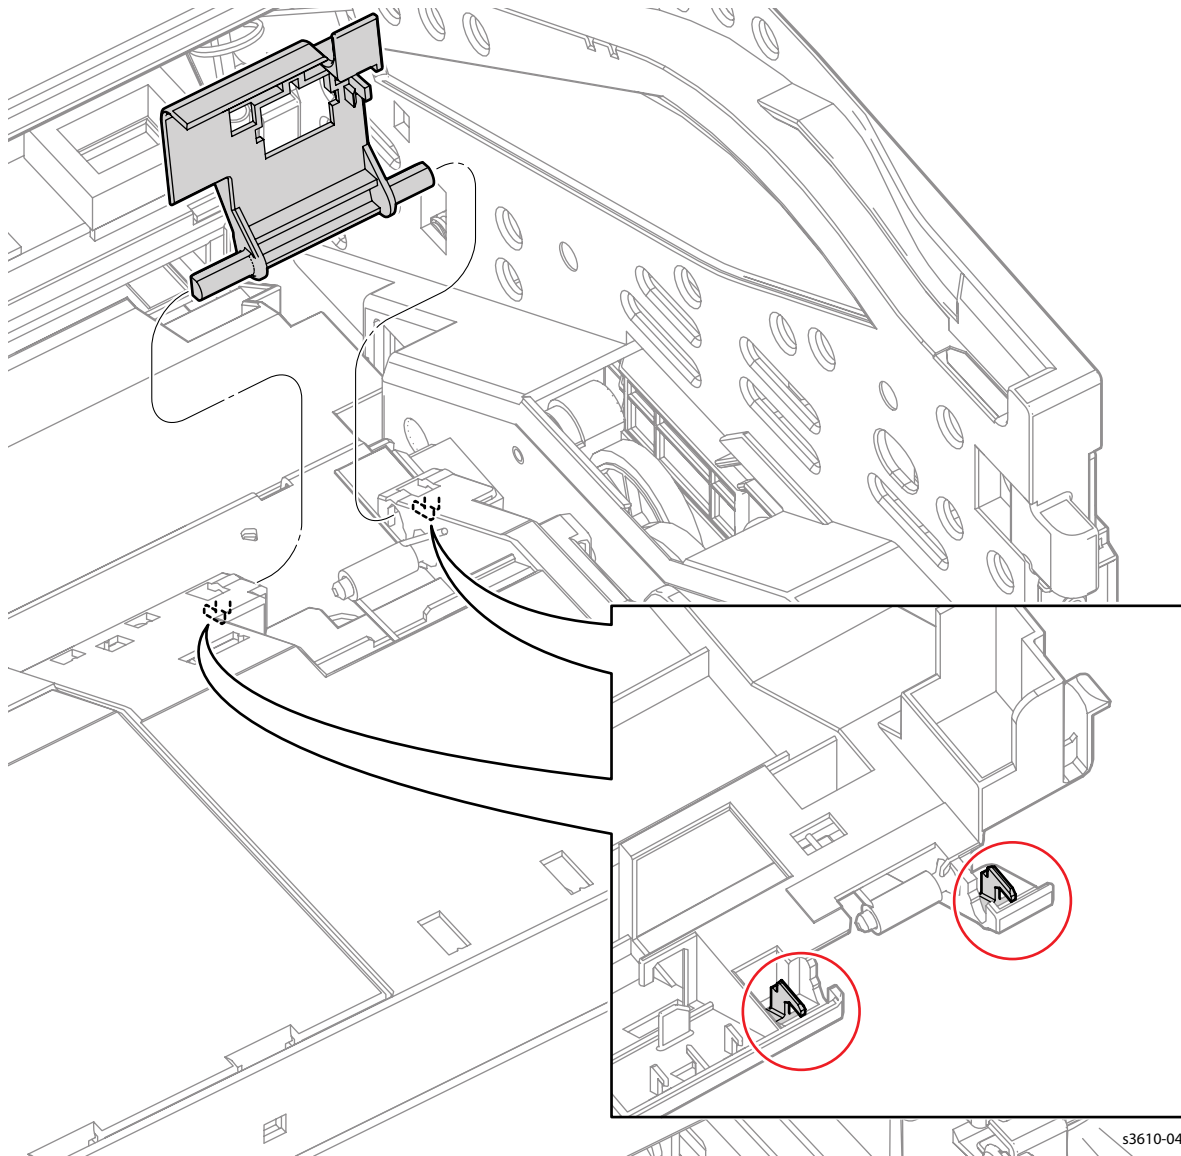

Figure 2
4. Release 1 of the 2 clips on the CRUM Housing, and then slide to remove the housing. (Figure 2)